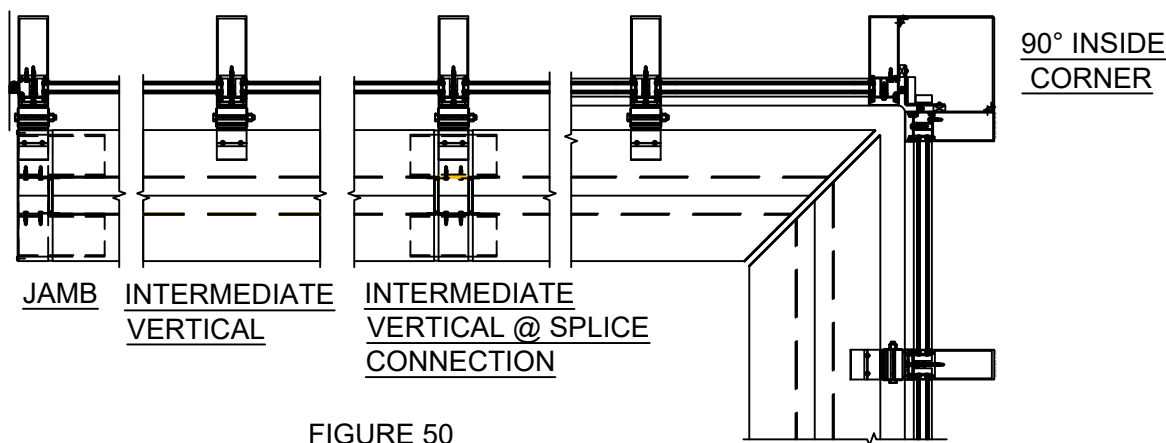
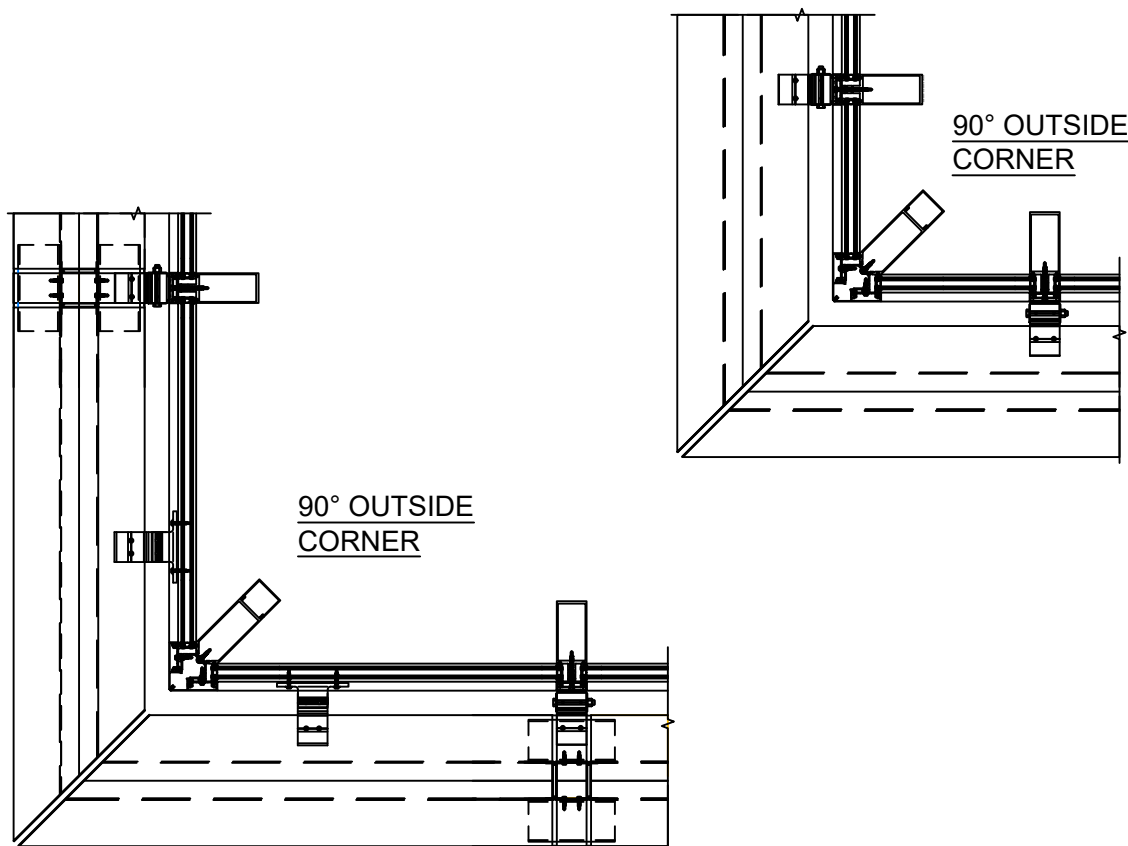

FIGURE 50
FIGURE 51
- 1) When installing the SolarEclipse Single Blade sun control system, the blades will only be attached to one mullion per span as shown below. There will be a splice connector installation at all jambs and every other vertical mullion. Corner must be engineered per project, but in most installation the adjacent mullion will require an anchor attached to the blade and blade will cantilever across the corner with a joint and end cap at each corner. (SEE FIGURE 50) In the case of an long span, a SS-207 anchor may be attached to the horizontal on Reliance and Reliance -TC Type I & II curtain walls to anchor the blade to the wall. (SEE FIGURE 51)